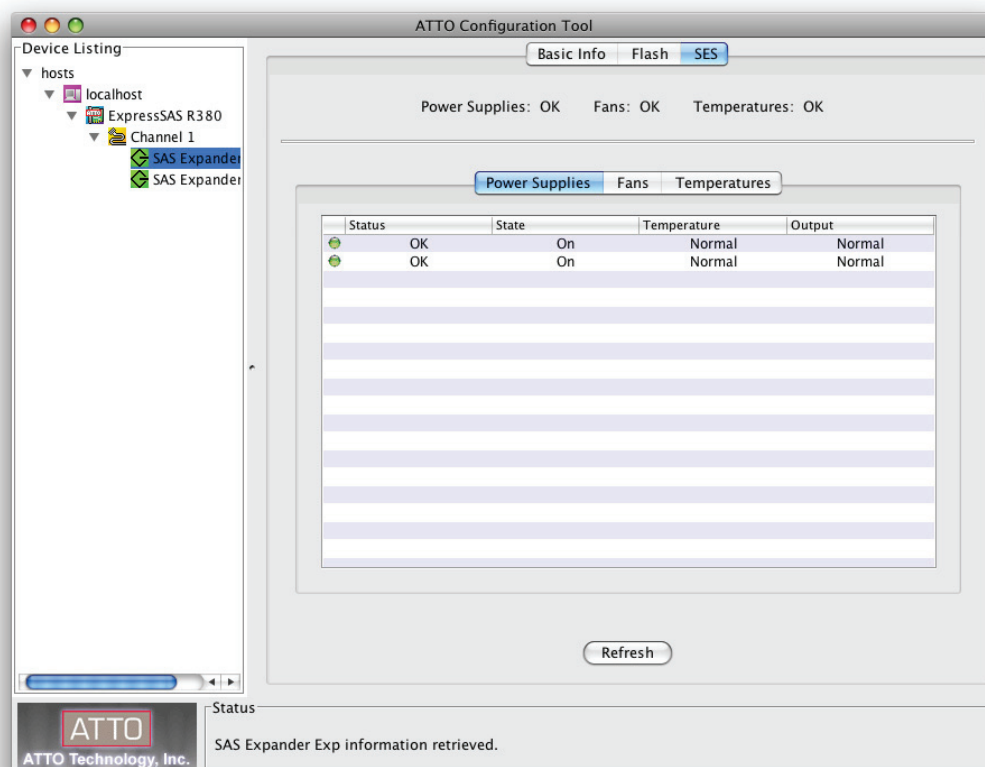

Figure 8
- The **SES** tab displays SES (SCSI Enclosure Services) status information for SES devices such as power supplies and fans. See **Figure 8** on page 6.